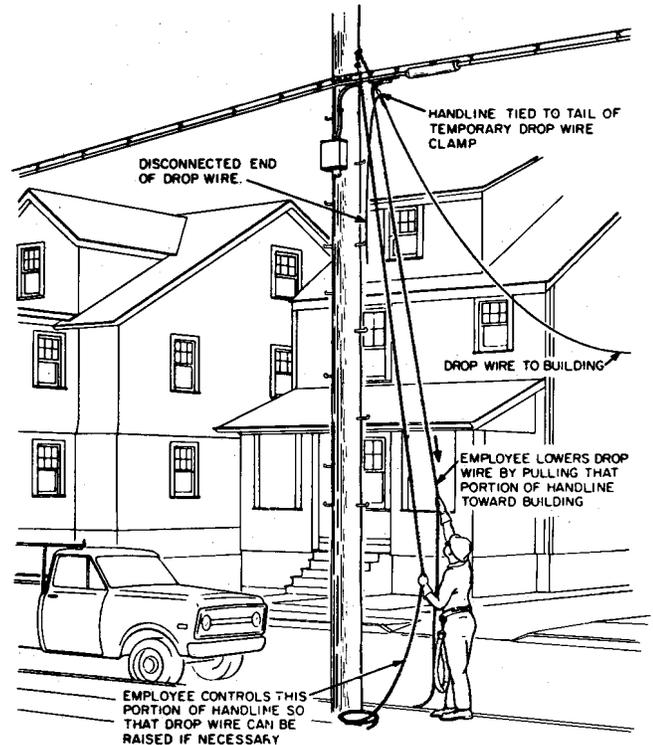

Fig. 10—Lowering Drop Wire
- (g) Return to the ground level. Untie the handline from the base of the poles or ladder rungs, and, when no vehicles or pedestrians are approaching, lower the drop wire to the ground. The employee shall have control of both ends of the handline (Fig. 10) so that a pull can be exerted in either direction to work the drop wire among tree branches or to raise the wire quickly if necessary.